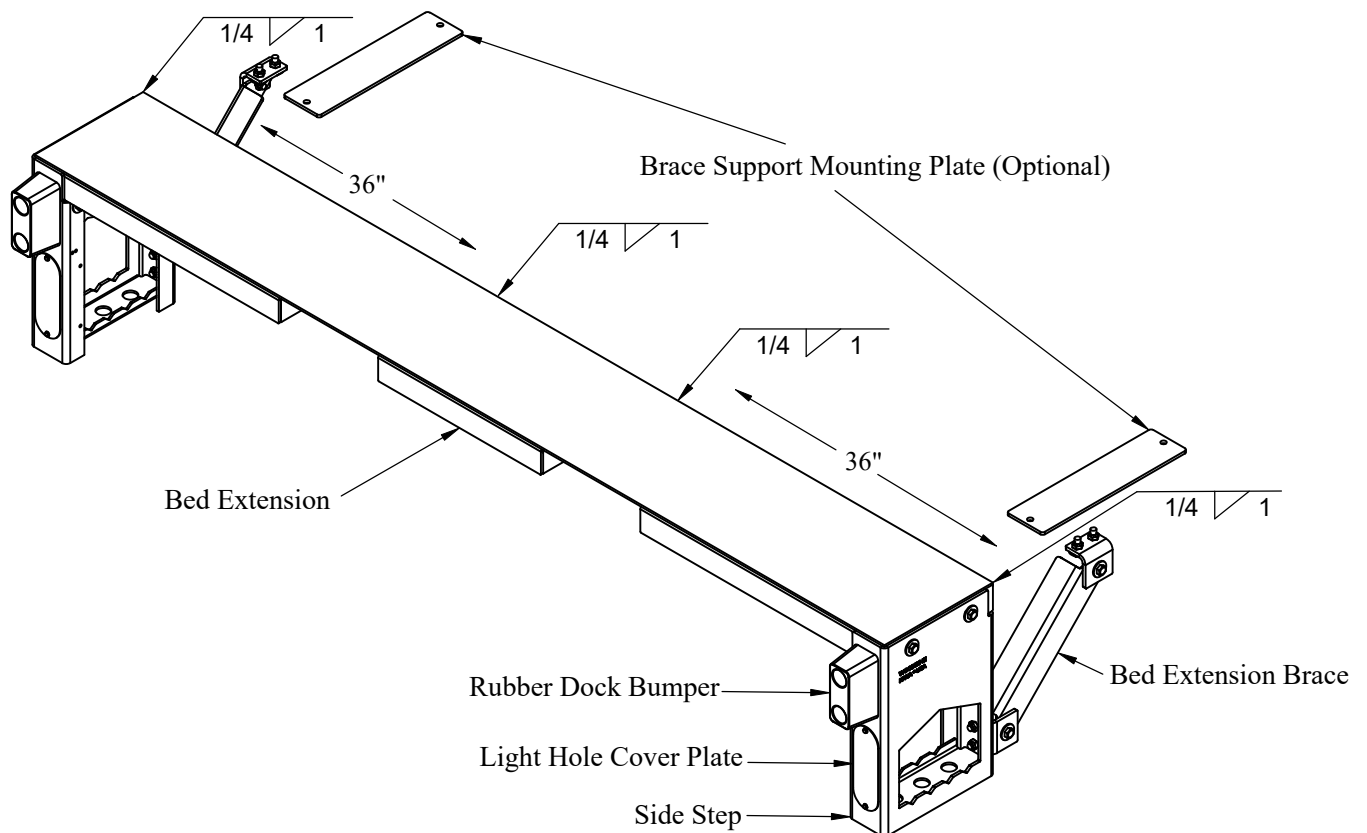

Figure 13: Bed Extension - Tacking Locations.
4. **Tack Weld** the bed extension into position with four one inch welds (Figure 13).